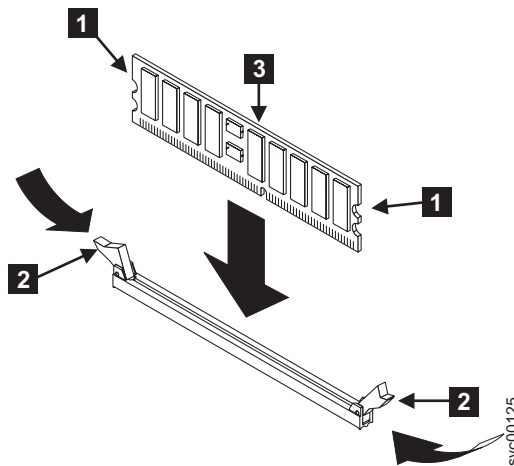

Figure 84. Replacing a memory module
1. With the clips **2** open, lower the memory module **3** into the connector, as shown in Figure 84. Close the clips by pressing them inward.